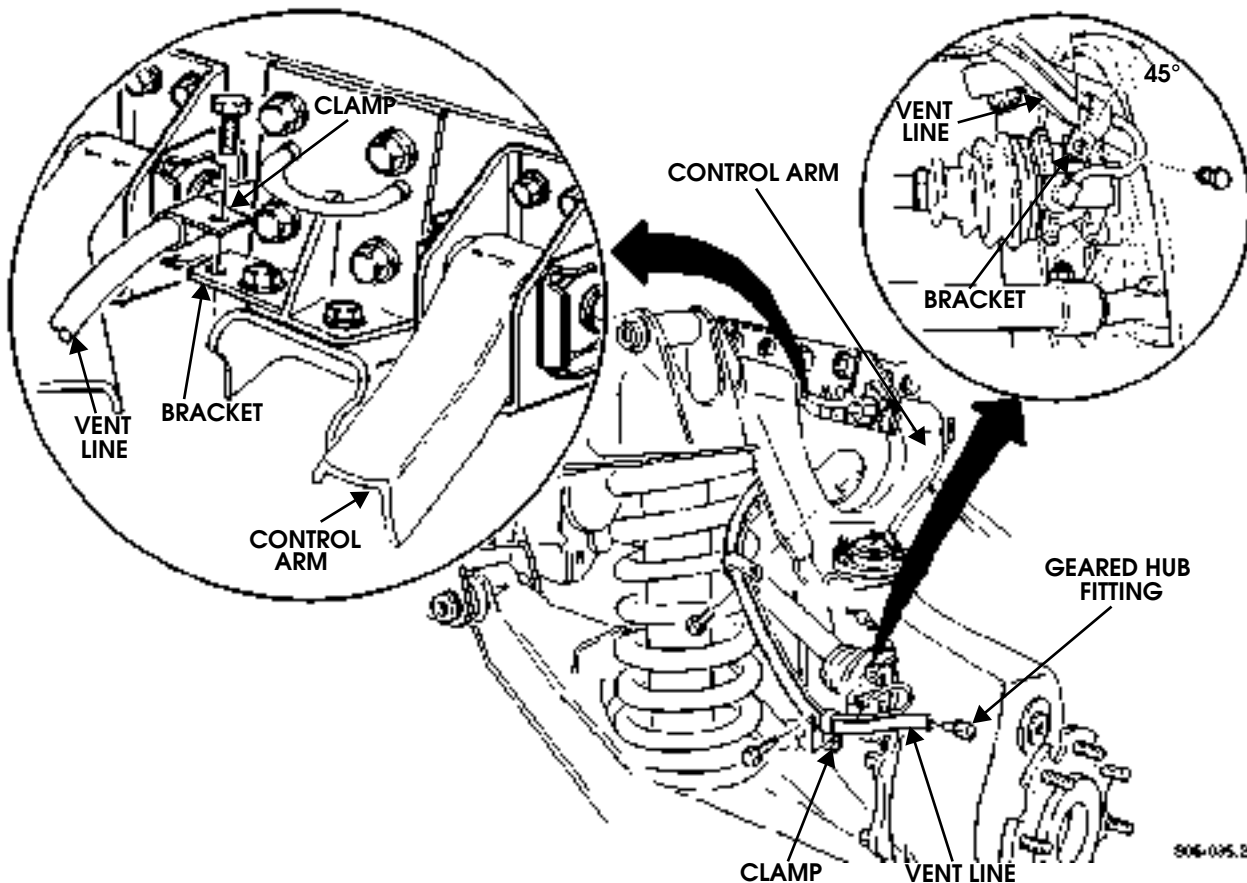

Figure 9-52: Geared Hub Vent Line Positioning
1. Disconnect vent line from geared hub fitting (Figure 9-52).
2. Secure vent line to bracket with clamp and bolt (Figure 9-52).
4. Secure vent line to control arm with clamp and bolt (Figure 9-52).